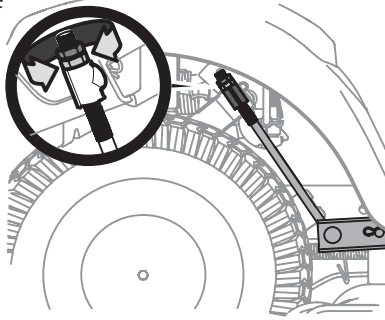

Figure 20
3. Under the rear fenders inside the wheels there is a lift adjustment rod for each side of the deck. See Figure 20.